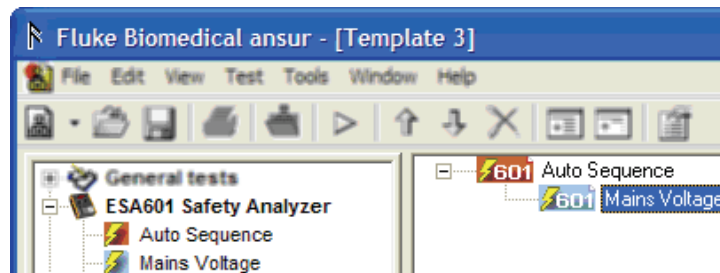

Figure 3-18. Adding Electrical Safety Tests to the Auto Sequence
4. To add tests to the Auto Sequence, click and hold on the desired test in the Test Explorer window and drag it to directly over the Auto Sequence entry in the Template Window and release it. The Mains Voltage test is added to the Auto Sequence shown in Figure 3-18.